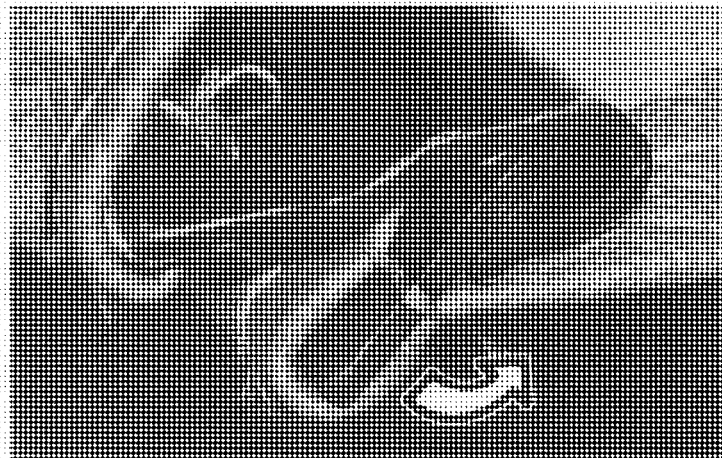

FIGURE 5. Two Piece Clip for Seat Back Cover (Rotate to Disengage)
- a. Front flap of cover is clipped to back flap of cover at bottom of seat back. The clip piece attached to the front flap must be pulled forward (rotated) to disconnect it from the clip piece attached to the back flap. See FIGURE 5.
10. Stretch the cover to reconnect the clips attached to the front and back cover flaps at the bottom of the seat back. Insert the front flap clip into the groove of the back flap clip until the clip barb is engaged. See FIGURE 5.